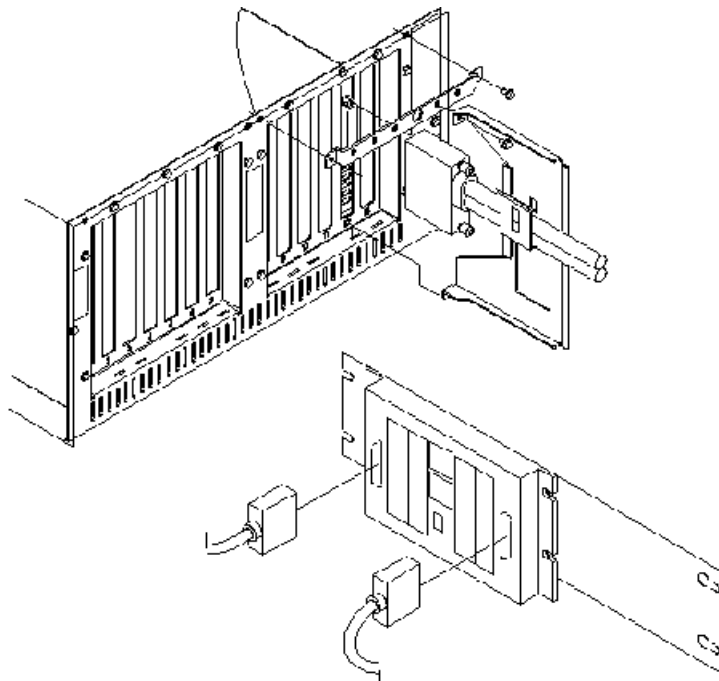

Figure 2-8. BTC-Cabled Board Installation
Channel priority is set with a switch located on the BTC-C board. Set the switch on the BTC-C board to the appropriate position for the desired priority. Bypass is set using a switch located on the V-junction connector of the Channel Adapter cable. Refer to Figure 2-8.
4. Set switches to Bypass to isolate the unit from the local channel. The Bypass switch for the BTC-C assembly is located on the V-junction connector of the Channel Adapter cable (Figure 2-8).